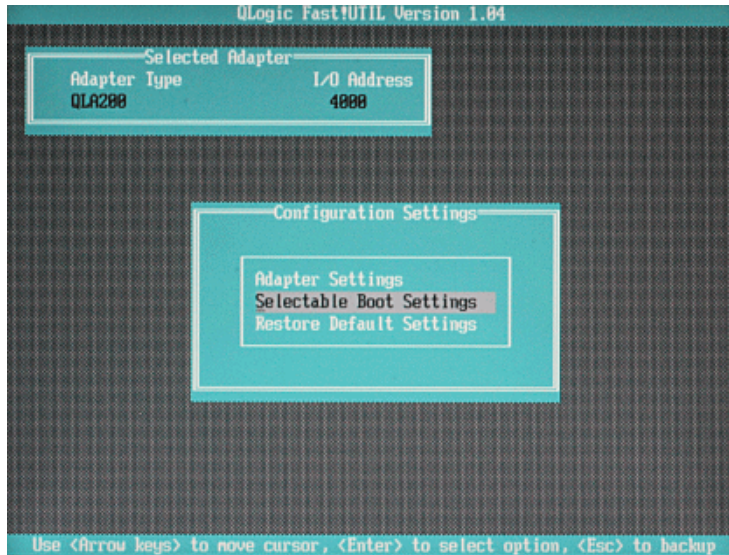

Figure 9-64 Configuration settings — Selectable boot settings
4. Select **Selectable Boot Settings** as shown in Figure 9-64 on page 489 and press **Enter**.